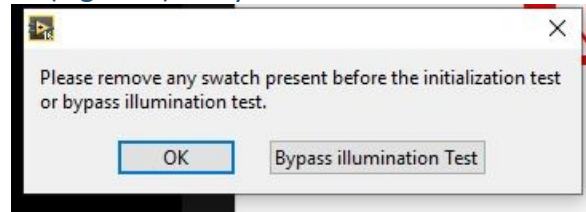

Figure 5: Illumination test by-pass pop-up window
- Choosing **Live measurement & load data** leads to an automated test procedure that insures all hardware components (Camera and LED panel) are working properly to the factory specifications. Another pop-up window appears, allowing the user to by-pass the illumination test (Figure 5). Only the camera connection will be tested.